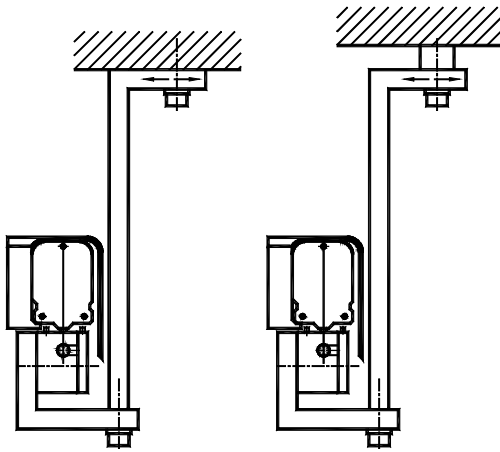

Fig. 22
- f. Install the scale by making use of the T frame (See Fig. 22 – Fig. 31. A: Plate A of T frame; B: Plate B of T frame; C: Extension plate C of T frame; D: Extension plate D of T frame; and E: Part E of T frame).